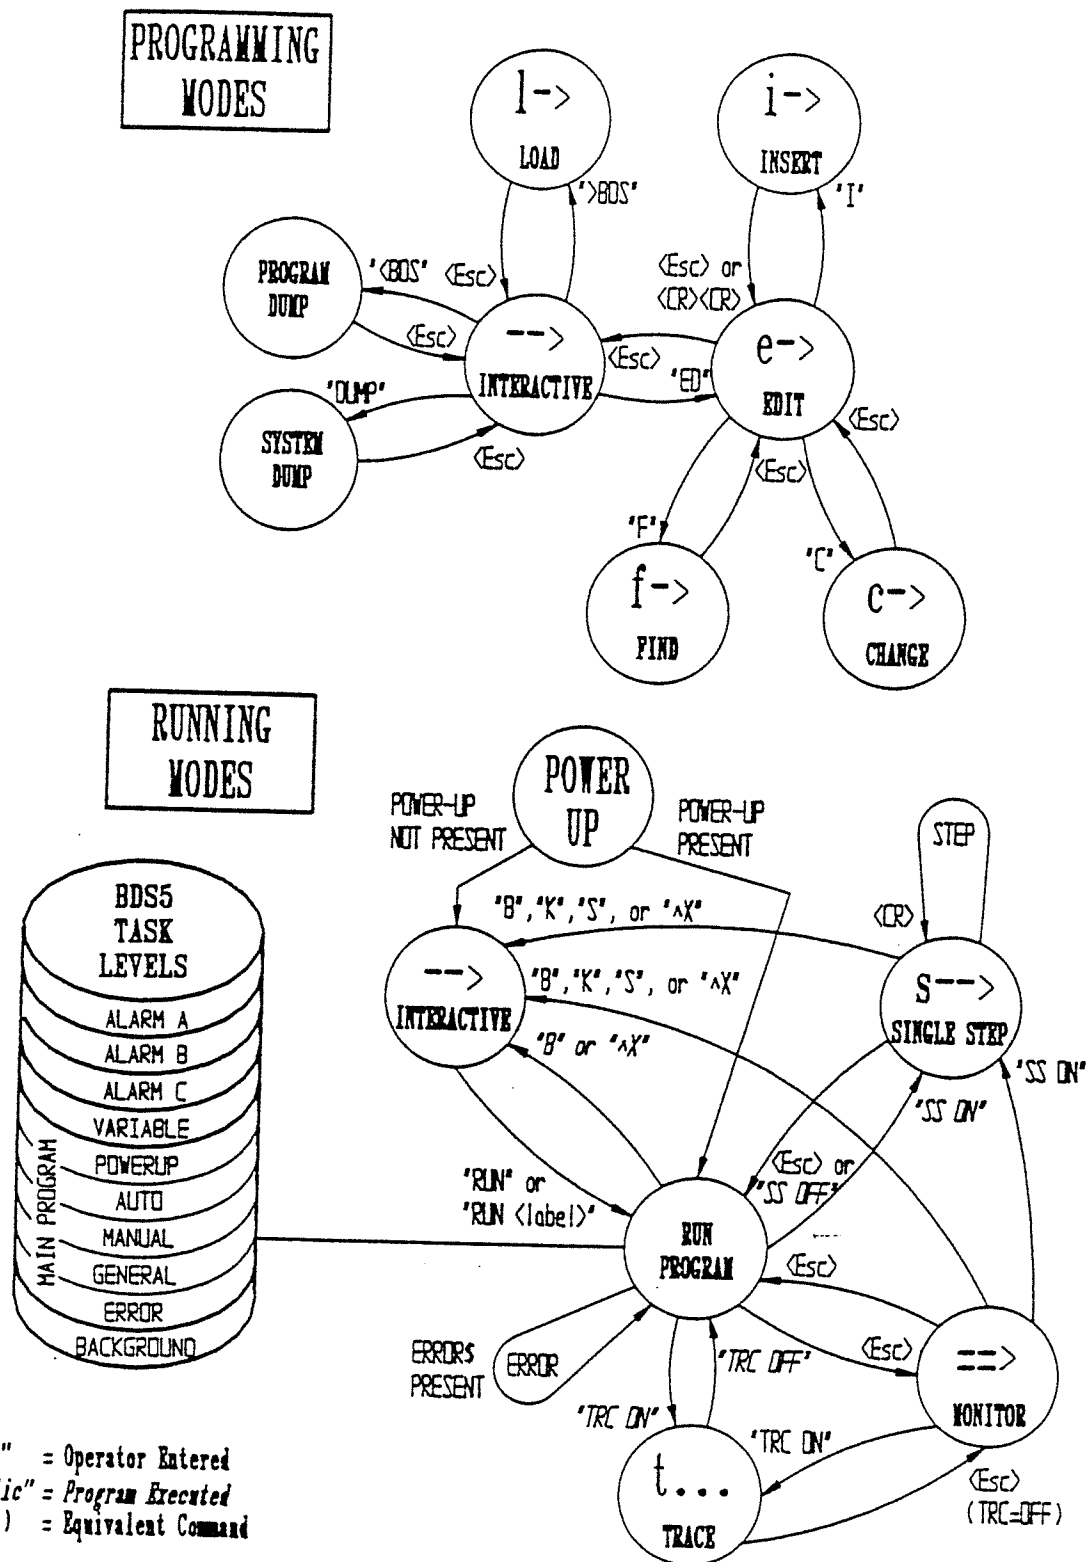

Figure 2.2. BDS5 State Table
The following section describes each of the modes of operation. Refer Figure 2.2 which is a diagram showing each mode and how it interacts with the other modes.
Refer to Figure 2.2. There are many ways to enter the Interactive mode. First, if the power-up label (POWER-UPS) is not present, the BDS5 will power-up in the Interactive mode. The BREAK (B) command and errors that break program execution cause the BDS5 to exit the Run mode and enter the Interactive mode.
Refer to Figure 2.2. After autobauding, the Run mode is normally entered from either the Interactive mode, the RUN command, or from multi-tasking. If the power-up label (POWER-UP\$) is present, the BDS5 will start running your program at that label on power-up. Also, the BDS5 will exit the Run mode to the Monitor mode if the escape key is pressed.
The other modes shown in Figure 2.2 include the Edit modes (Edit, Insert, Change, and Find) and the communication modes (Program Load, Program Dump, and System Dump). These modes are covered in later chapters.